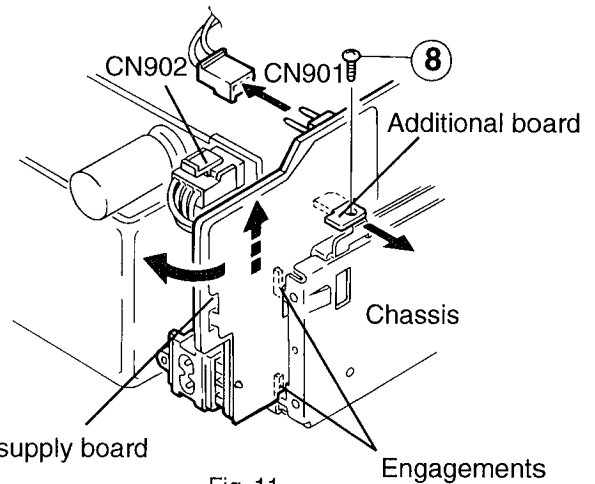

Fig. 11
4. Remove the power supply board to slid upward, disengage the two engagements between the chassis and power supply board. (See Fig. 11)